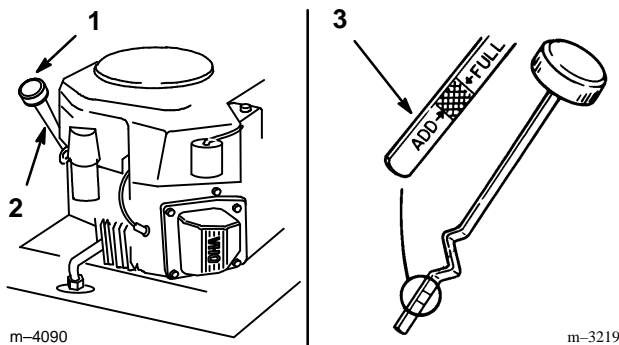

Figure 31
2. Clean around the oil dipstick (Fig. 31) so dirt cannot fall into the filler hole and damage the engine.
3. Unscrew the oil dipstick and wipe the metal end clean (Fig. 31).
4. Slide the oil dipstick fully into the filler tube, do not thread onto tube (Fig. 31). Pull the dipstick out and look at the metal end. If oil level is low, slowly pour only enough oil into the filler tube to raise the level to the “FULL” mark.
5. Slowly pour approximately 80% of the specified amount of oil specified, page 39, into the filler tube (Fig. 31). Now check the oil level; refer to Checking Oil Level, page 40. Slowly add additional oil to bring to “FULL” mark on dipstick.